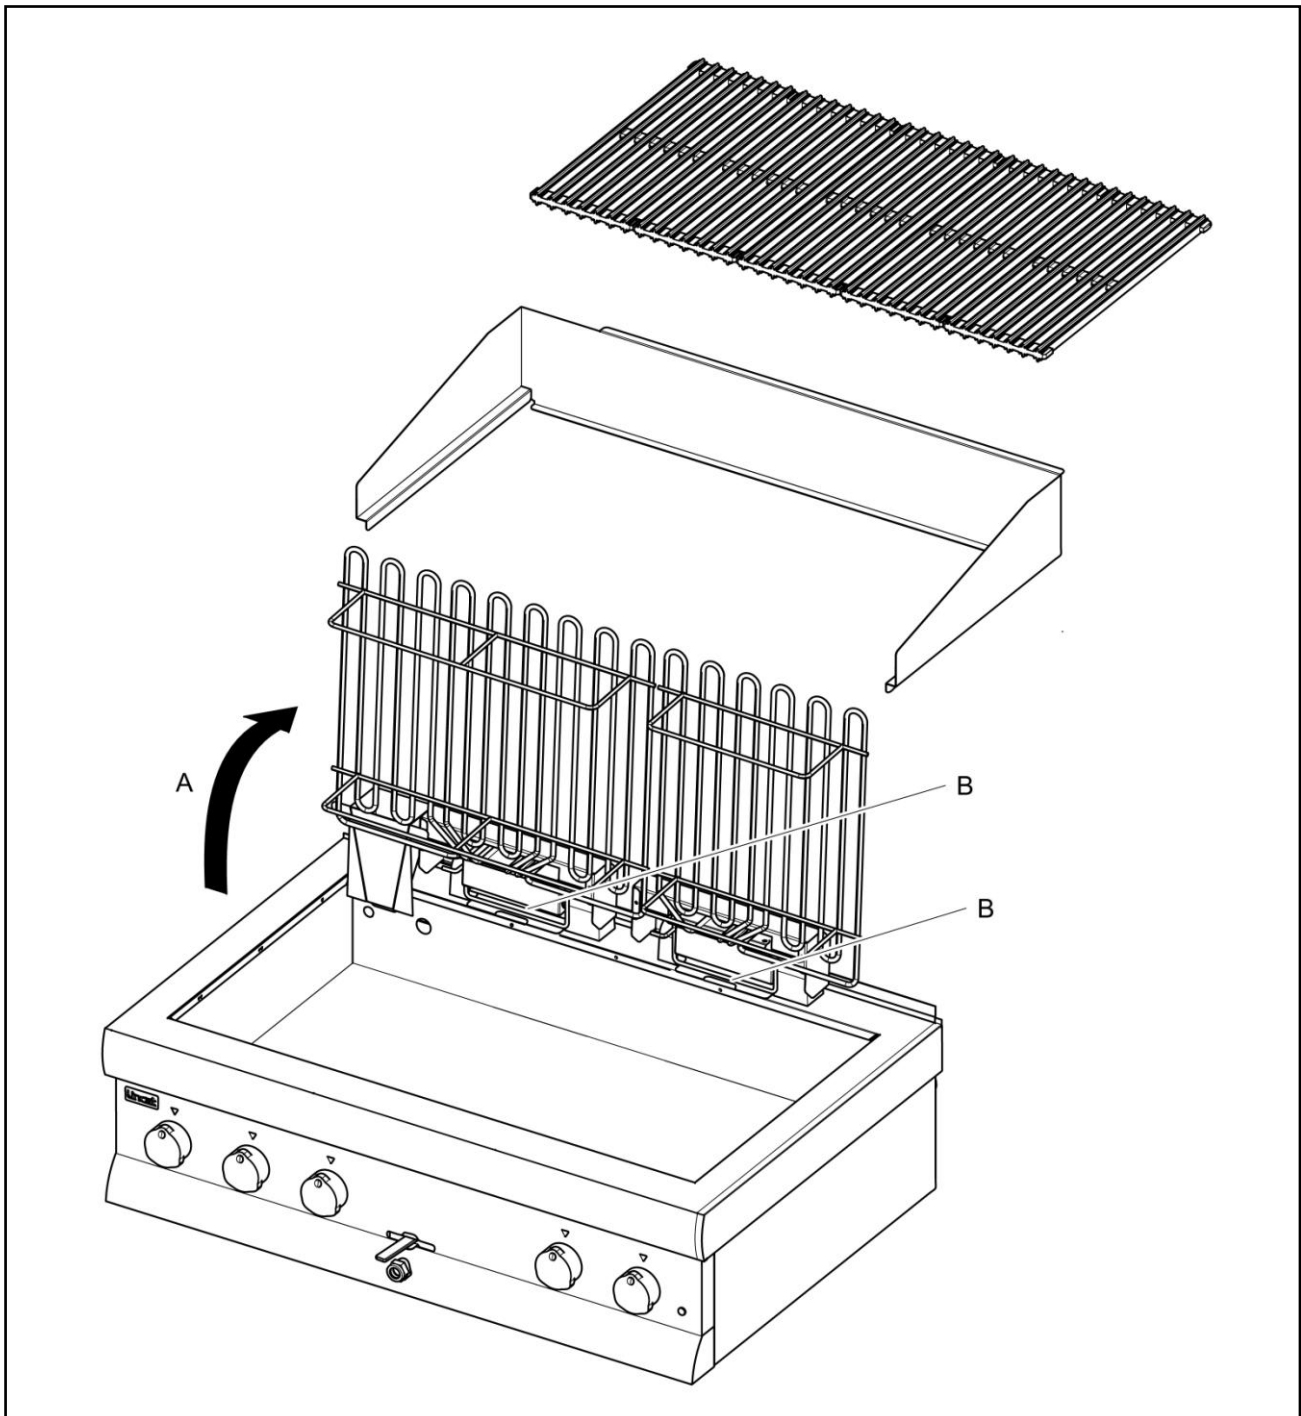

Fig 2
To clean the appliance before first use, lift off the cooking grids (Fig 2) ensuring they are not dragged across the element. Remove the splashguard and then lift and swing the element into the upright position (A) until the element stay engages (B). Clean the tank.